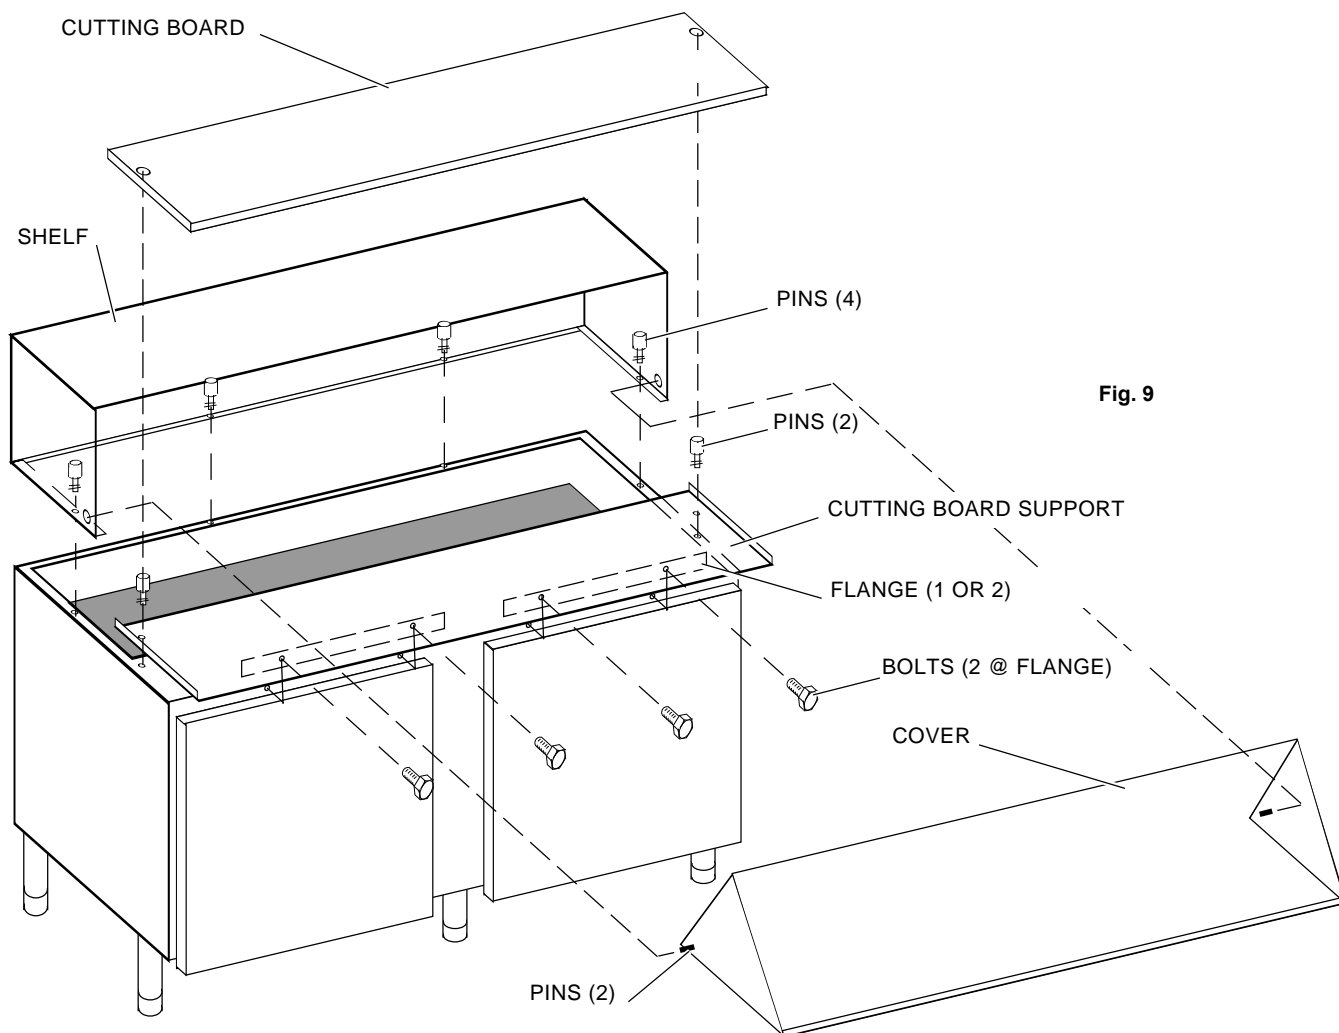

Fig. 9
1. Place the shelf on top of the rear of the unit. Secure by screwing 4 threaded pins through base of shelf and top of unit (see figure 9).
2. Install cutting board support. Secure with 2 threaded pins and 2 bolts per flange (see figure 9) (wider units may be equipped with an additional third pin in the center).
3. Assemble cutting board to cutting board support (pins holding cutting board support fit through holes in cutting board when properly aligned, see figure 9).
4. To install cover, flex cover so side pins fit in holes at lower front corners of shelf (see figure 9). Cover pivots up to open.